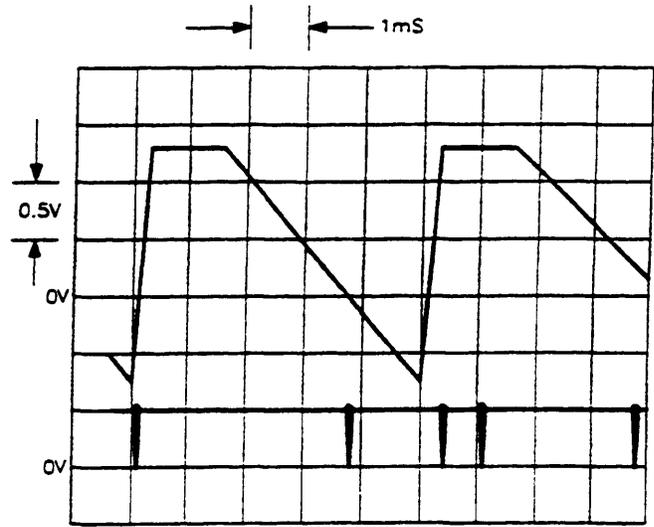

Figure 3. VCO Tune and Beatnote Detector.
8. Connect Chan 2 to A4W2, open pin. Verify that the oscilloscope display shown in Figure 3 is correct.